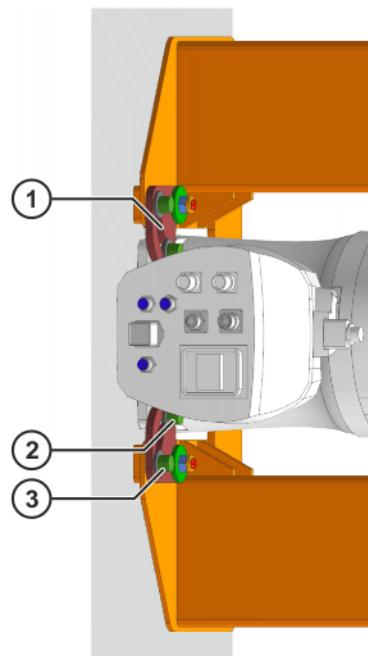

Fig. 11-5: Positioning and fastening the swivel holders
15. Position swivel holders on base frame (>>> Fig. 11-5).